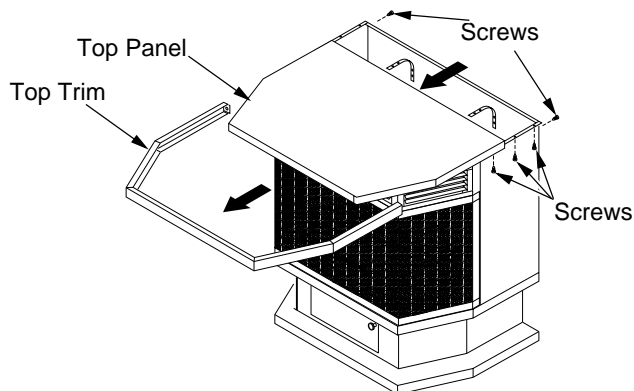

Figure 11 - Removing Stove Top Panel
1. Remove 2 screws from rear tabs on top trim. Pull trim forward to remove (see Figure 11).
2. Remove top panel of stove by removing three screws from under top lip on each side of stove (see Figure 11).
3. Facing front of stove, carefully slide top panel forward until it is completely removed from stove (see Figure 11).
1. Remove 2 screws from rear tabs on top trim. Pull trim forward to remove (see Figure 11, page 10).
2. Remove three screws from under top lip on each side of stove to remove top panel (see Figure 11, page 10).
3. Facing front of stove, carefully slide top panel forward until it is completely removed from stove (see Figure 11, page 10).